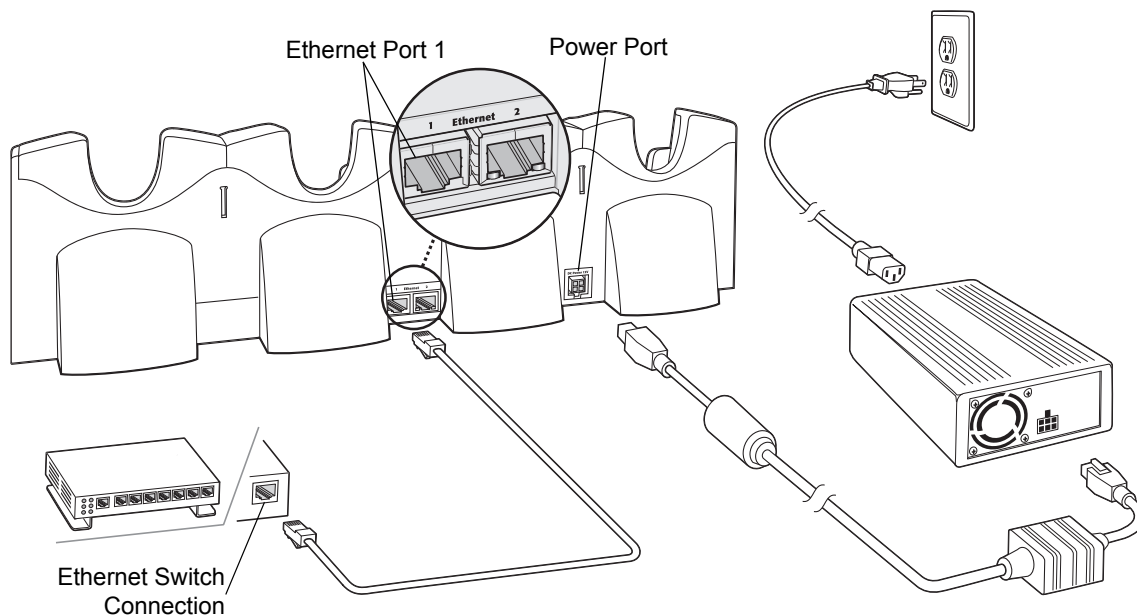

Figure 2-7 Four Slot Ethernet Cradle Connection
1. Connect the first Ethernet cradle to power and to the Ethernet Switch as shown on Figure 2-7 on page 2-8.